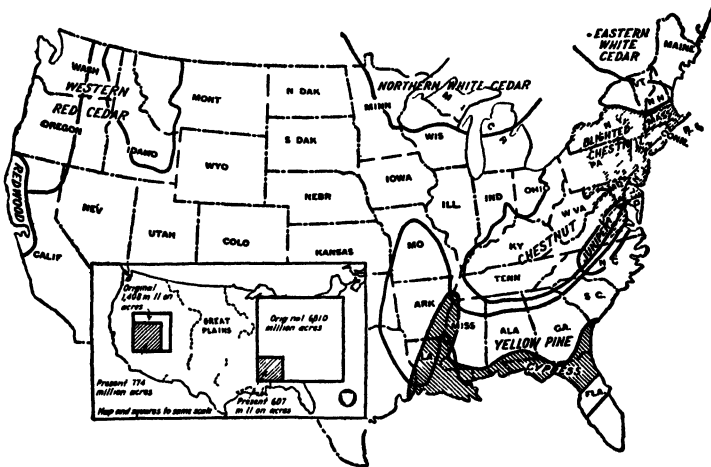

FIG 4-3 Distribution of pole timber in the United States.
**Kinds of Wood Poles.** The species of wood poles used in different parts of the United States is largely determined by the poles available in that locality. In the central United States, northern white cedar has been largely used because it is available in Minnesota, Wisconsin, and Michigan. This species is easily distinguished by the large butt and small top. On the Pacific coast, western red cedar is used because it grows in Washington, Oregon, and Idaho. A red cedar pole has very little taper, the butt being only a little larger than the top. In the eastern states, chestnut is generally used because it grows in the Appalachian Mountains. In the South, cypress and yellow pine are largely used. The eastern supply, however, is becoming nearly exhausted and, therefore, much northern white cedar is already being shipped East. Figure 4-3 shows the location of the various species of pole timber in the United States.